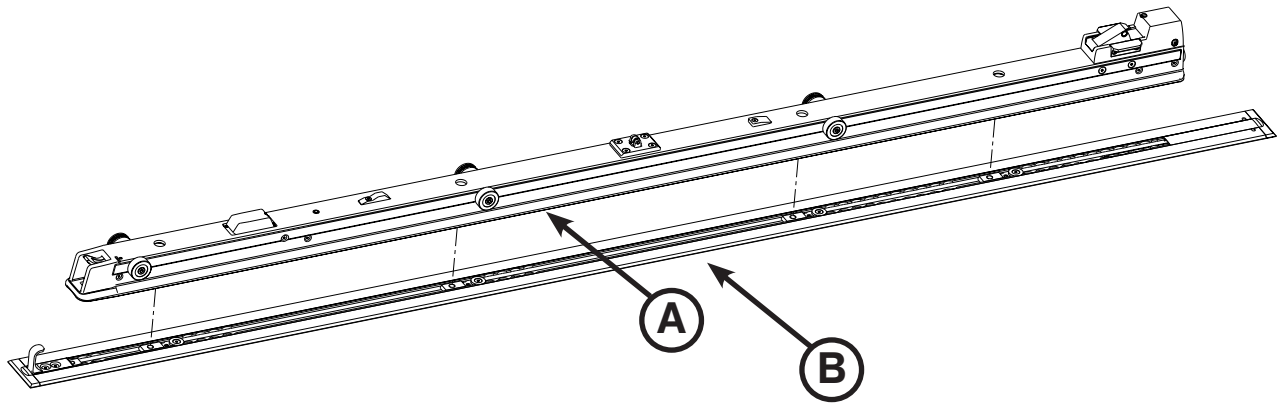

Figure 15: Anchor Assembly and Floor Plate Assembly
35. Carefully place the anchor assembly (A) on top of the floor plate assembly (B) as shown in Figure 15, laying the excess wire into the floor plate pocket. Align the four holes with the floor plate attachment brackets.